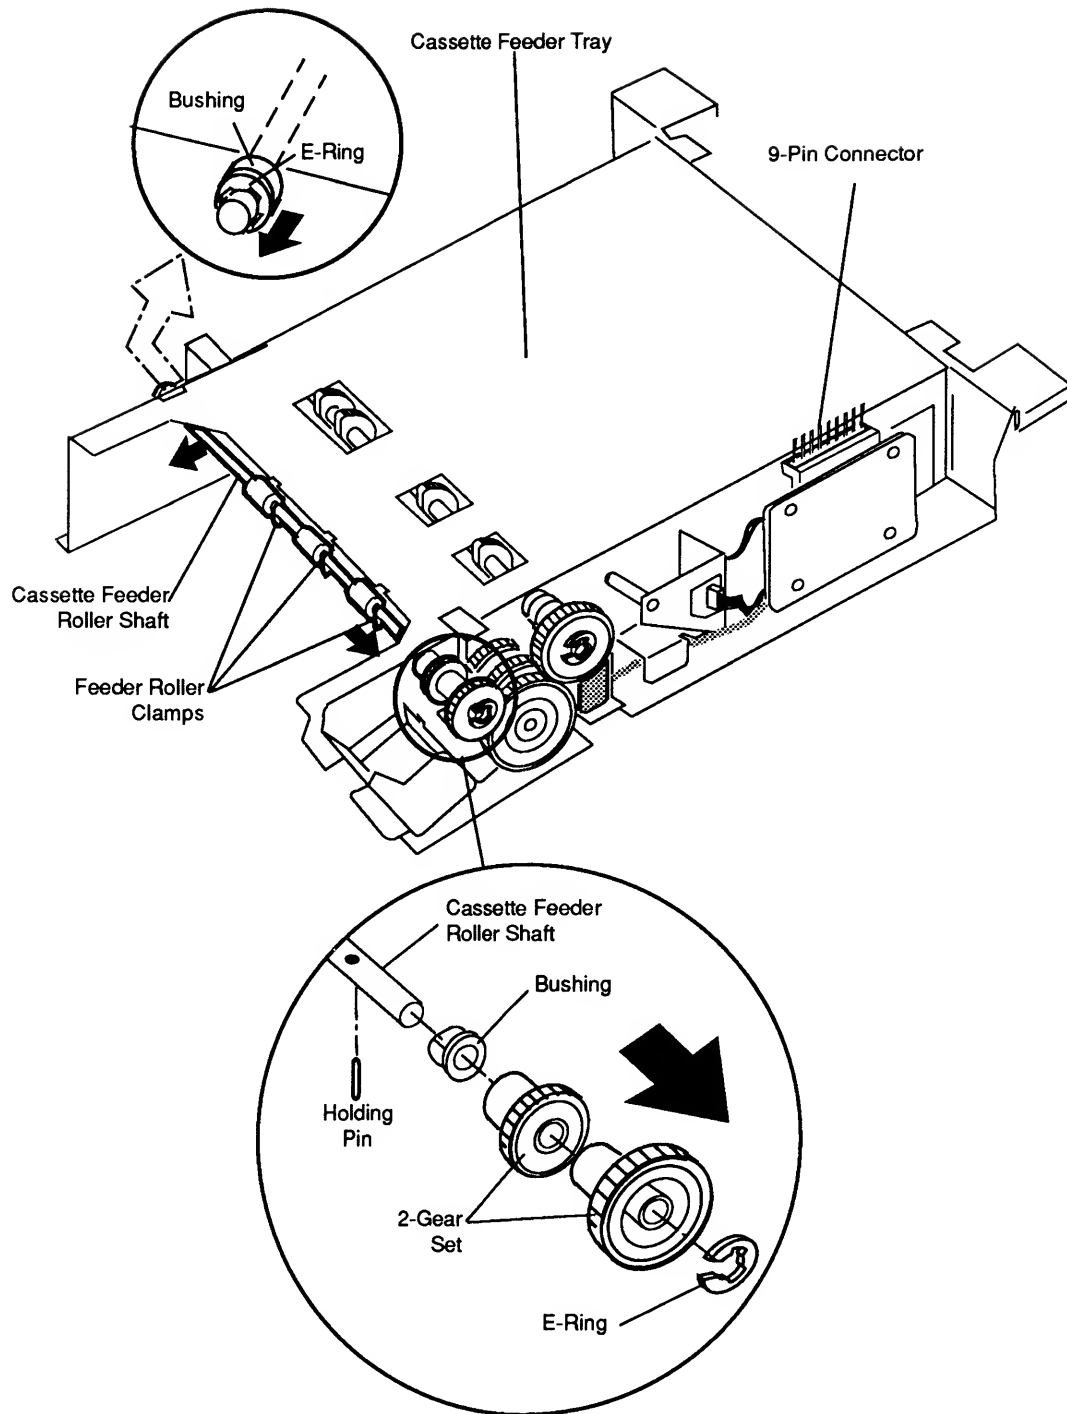

Figure 2-7 Cassette Feeder Roller Shaft
3. Turn the cassette feeder tray so that the 9-pin connector is facing upward. Locate the cassette feeder roller shaft (**Figure 2-7**).
4. Using a small screwdriver or grip-ring pliers, remove the E-rings at each end of the feeder roller shaft (**Figure 2-7**).
5. Slide the two white gears off the roller shaft (**Figure 2-7**).
6. Remove the small metal holding pin next to the bushing on the right side of the roller shaft (**Figure 2-7**).
7. Unhook the three plastic feeder roller clamps (**Figure 2-7**).
8. Slide the bushing off each end of the roller shaft and remove the roller shaft from the cassette feeder tray (**Figure 2-7**).
2. Hook the three plastic feeder roller clamps to the cassette feeder tray (**Figure 2-7**).
3. Replace the bushings at each end of the roller shaft (**Figure 2-7**).
4. Replace the E-ring on the left side of the roller shaft (**Figure 2-7**).
5. Reinstall the small metal pin, the two white gears, and the remaining E-ring (**Figure 2-7**).